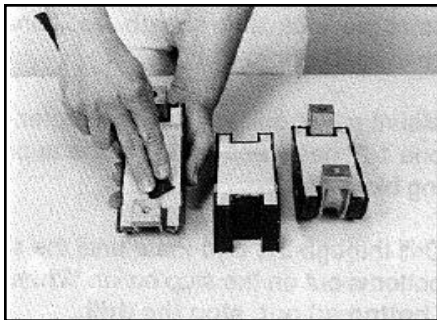

FIGURE 12 - SCUFFING CABLE OPENINGS
6.01 Remove sharp edges on plastic and foam in area of opening with emery cloth (provided). (Figure 12)